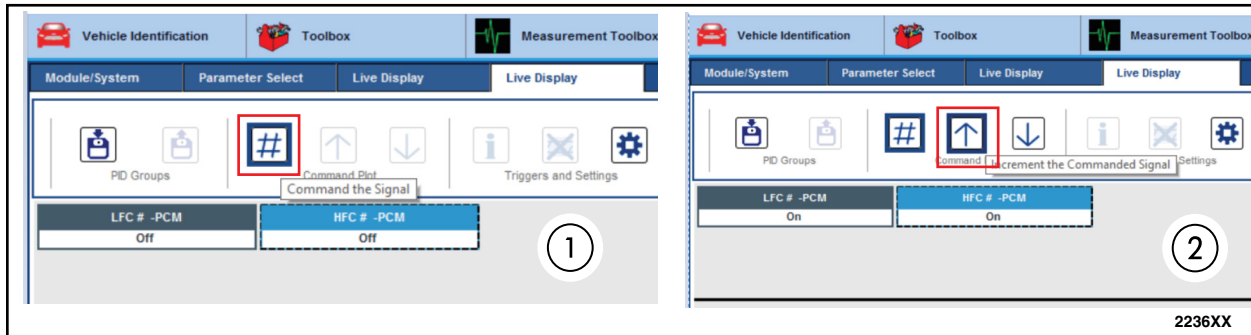

FIGURE 55
74. Select the Command Signal button (#) and then select the arrow pointing up. See Figure 55.